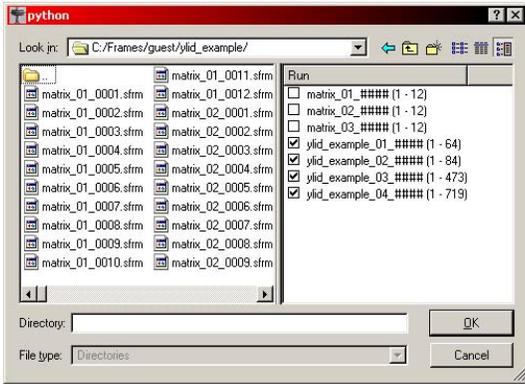

Figure 7.4 – Find Runs window
- Click **Find Runs**. The Find Runs window (Figure 7.4) opens. Usually, the Find Runs window has the correct directory and base name as the defaults. If these are not correct, then use the **Browse** button to find the runs for the experiment of interest.